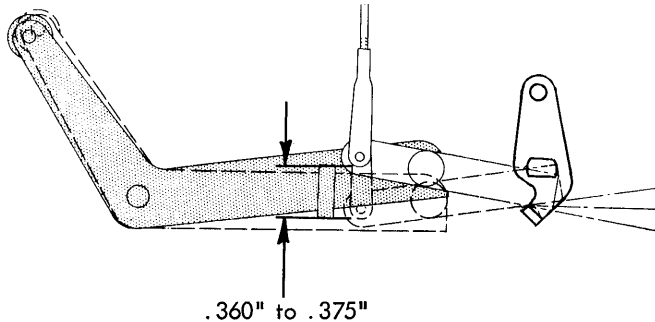

FIGURE 216. Multiplying Lever Stop (Late Style)
2. Multiplying Lever Stop - (Fig. 216) - Adjust the multiplying lever stop front or rear to produce .360" to .375" (approximately 3/8") motion to the index link when the carrier return/index cam is operated to its high point (platen removed).